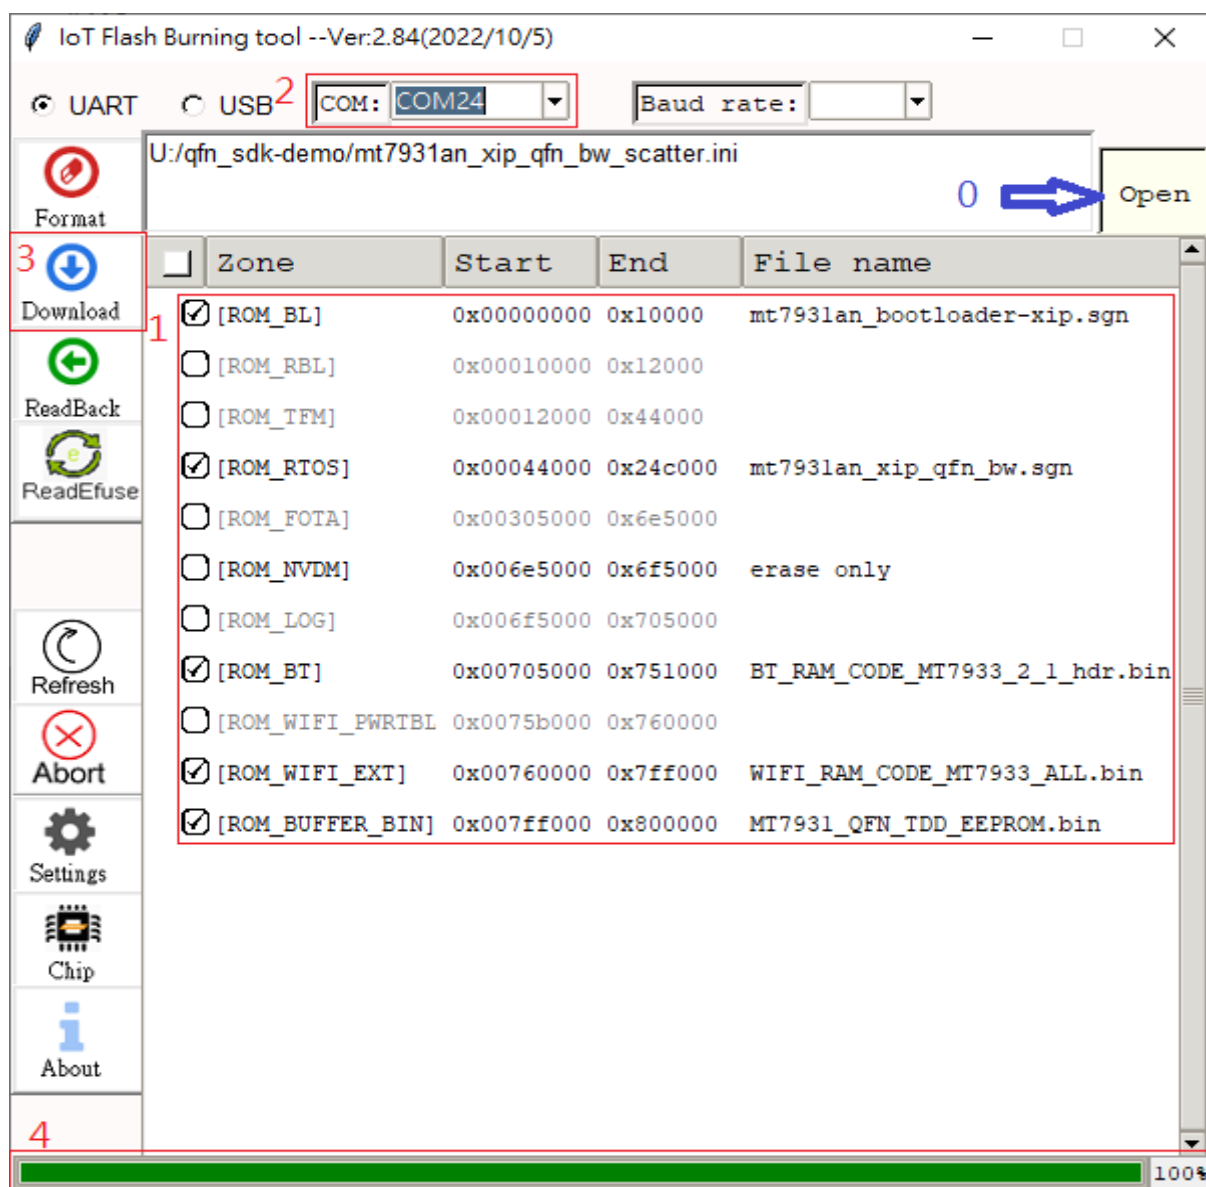

Figure 5. FlashBurningTool_User intrerface
6. Refer to Figure 5. Click “Open” button to navigate the folder of your scatter files (See the blue arrow in Figure 5). And press “Refresh” button.
7. Refer to Figure 5. Go to red box 1 and choose the file you want to burn into flash.
8. Refer to Figure 5. Go to red box 2 and choose the “COM33 UART” port of your PC. (Refer to Step 7 in Section 2.2 to check which USB serial port is CM33 UART port at your PC).
9. Keep “SW1” and “SW4” pressed and refer to Figure 5. Click “Download” (See red box 3 in Figure 5) and wait for FlashBurningTool feedback.
11. Check FlashBurningTool to see the progress bar of burning image.(See red box 4 in Figure 5 and wait to 100%)